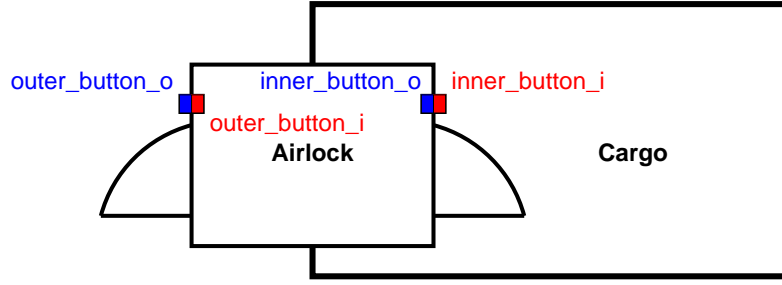

Figure 2: Extended button model to distinguish inside and outside buttons.
1. Buttons: You have to instantiate four buttons overall now (two related buttons for each door; see Figure 2). Depending on how you extend your model, a button may now be reset even if it was not pressed before. You are allowed to simplify/generalize the way a button works, and rewrite the button invariant (even specifying a similar property in a different part of the model) if needed. Resetting a button if there was only a request on the other side of the same door will simplify the model (e.g., you can now reset *inner\_button\_i* if the door opened only because of a request from *inner\_button\_o* and the former button was never pressed).